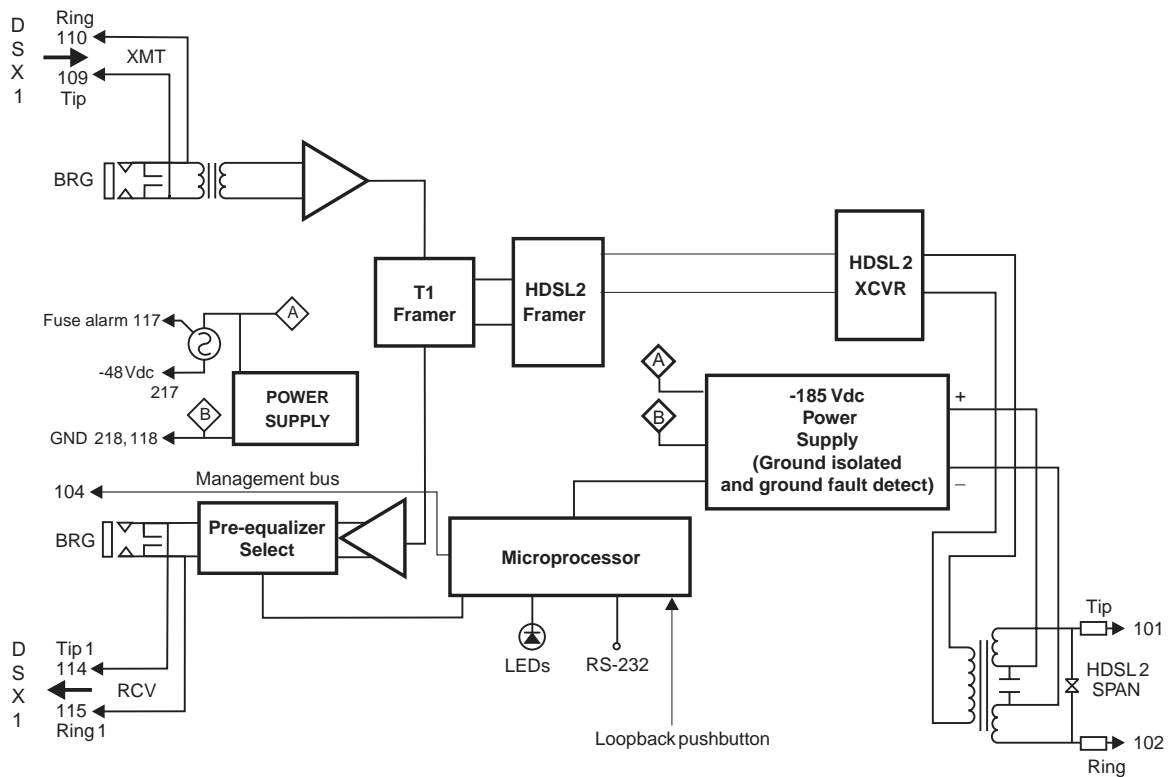

Figure 35. H2TU-C-388 List 1F Block Diagram
Figure 35 shows a block diagram of the H2TU-C-388 List 1F. The H2TU-C-388 receives a 1.544 Mbps DSX-1 data stream from the DSX-1 digital cross-connect interface. The H2TU-C contains a DS1 frame synchronizer controlled by an 8-bit microprocessor that determines the type of framing on the DS1 stream and synchronizes with it. The H2TU-C recognizes Superframe (SF), including D4, or Extended Superframe (ESF) framing.